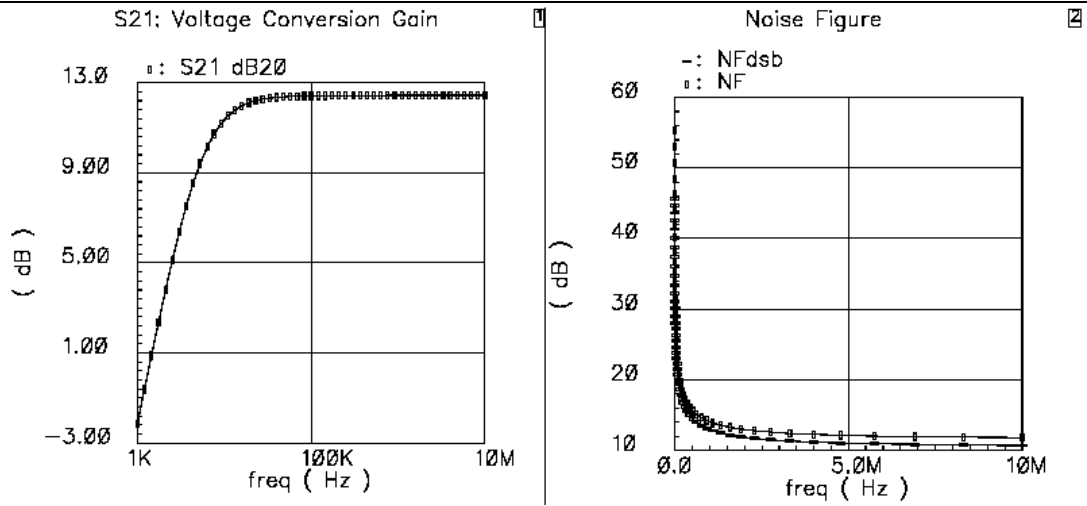
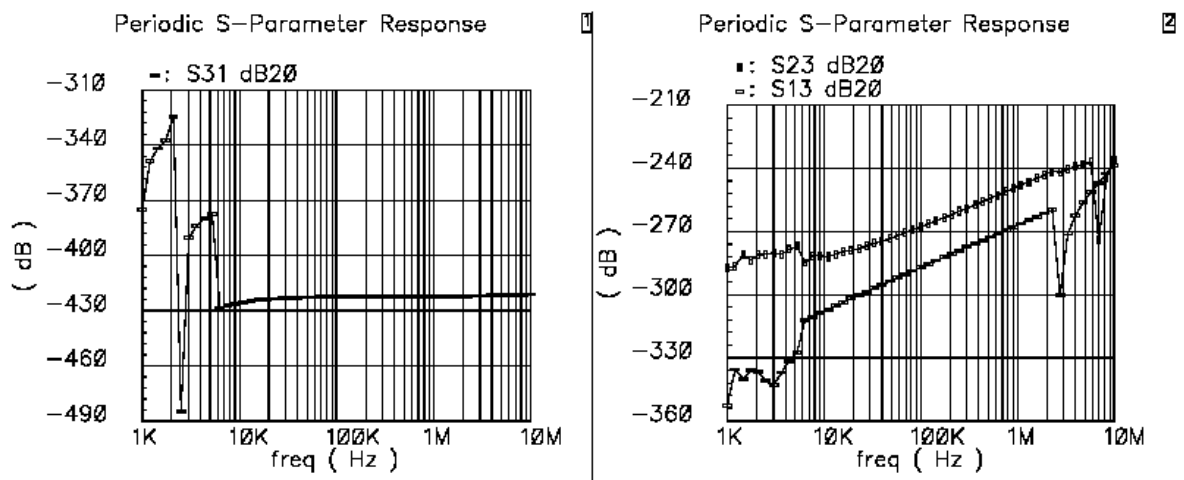

Fig 9: NF and S-Parameter Plots
Fig 10: S-Parameters Isolation Plots
- The order of ports is important. In our case PORT1 (RF) is numbered 1 and PORT3 (IF) is numbered 2. These are considered as input and out ports for noise analysis respectively.
- *You will see the plot as shown in Fig 9 and Fig 10.*